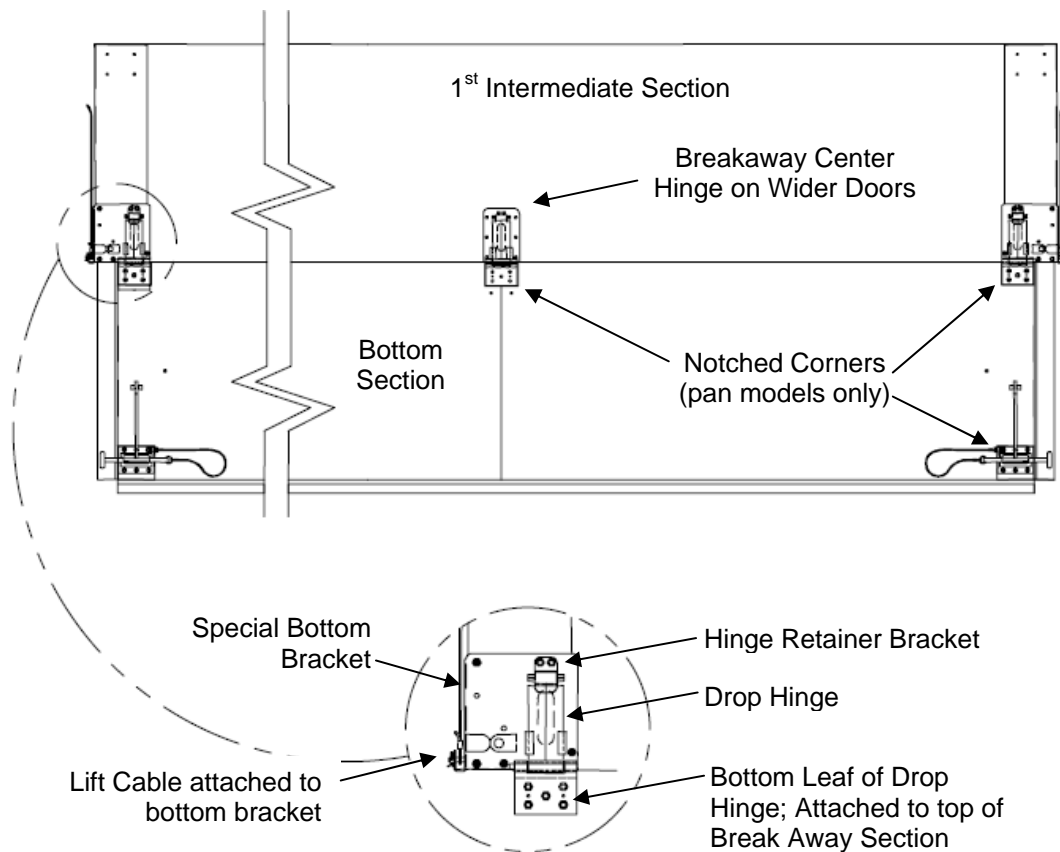

FIGURE 3
- Use the red headed self drilling screws supplied to install the bottom brackets. Each bracket is to have four self drilling screws positioned as shown in Figure 3 below.